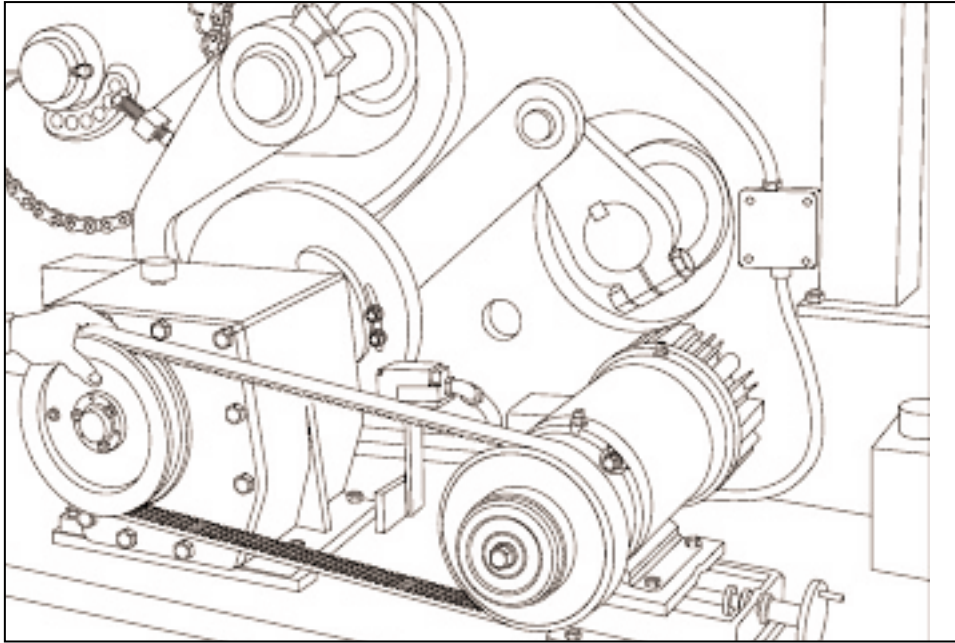
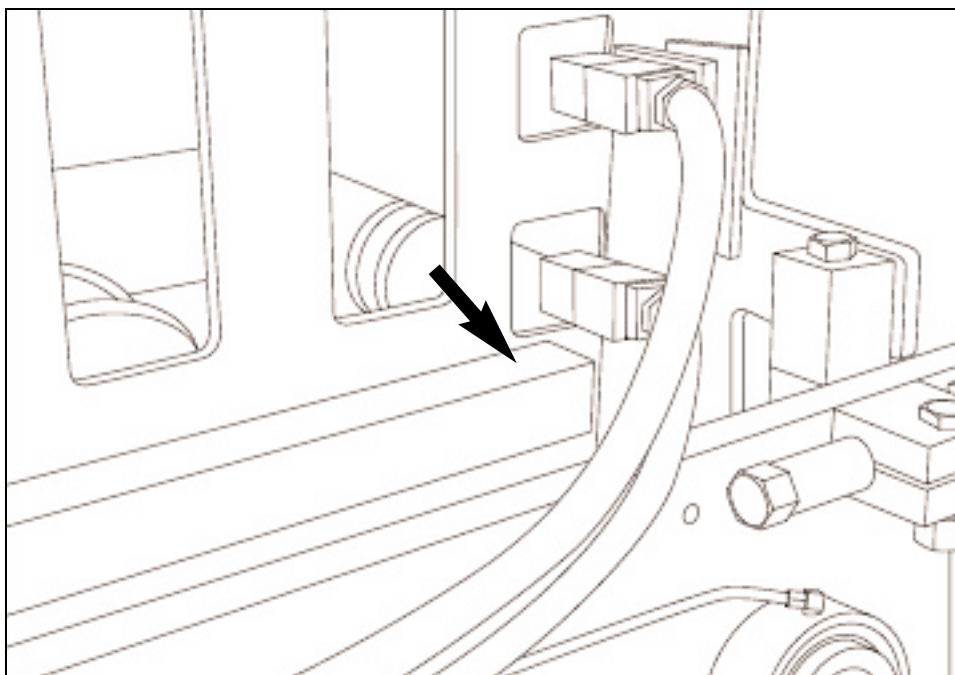
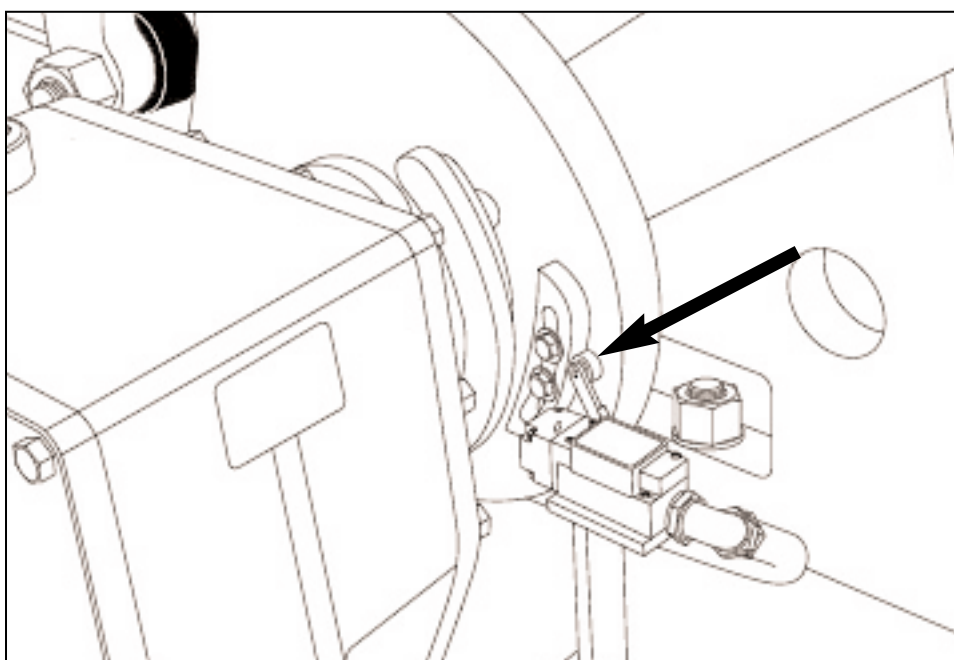

Figure 6.7 POSITIONING BLOCK MOVING BARS BY HAND.
Figure 6.11 EXTREME BACK POSITION OF BLOCK MOVING BARS.
Figure 6.19 LIMIT SWITCH ACTUATOR.
6.2.5 Rotate block delivery drive counterclockwise (see figure 6.7) until arms are fully back (see figure 6.11). In this position, the pins in the link will be aligned with the gearbox shaft.
6.2.10 Adjust the actuator for LS-6 to trip the switch by 2" (see figure 6.19).
6.2.15 Run machine and, at the moment where the pallet is beginning to be lifted off the chain, make sure the pallet is centered on the cradle. If pallet is not in center of cradle, turn off machine and readjust chains, refer to 6.2.8. When delivery arms come all the way back (see figure 6.11), drive link to cam must be in line with gear box shaft; if not adjust actuator for LS-6 (see figure 6.19).